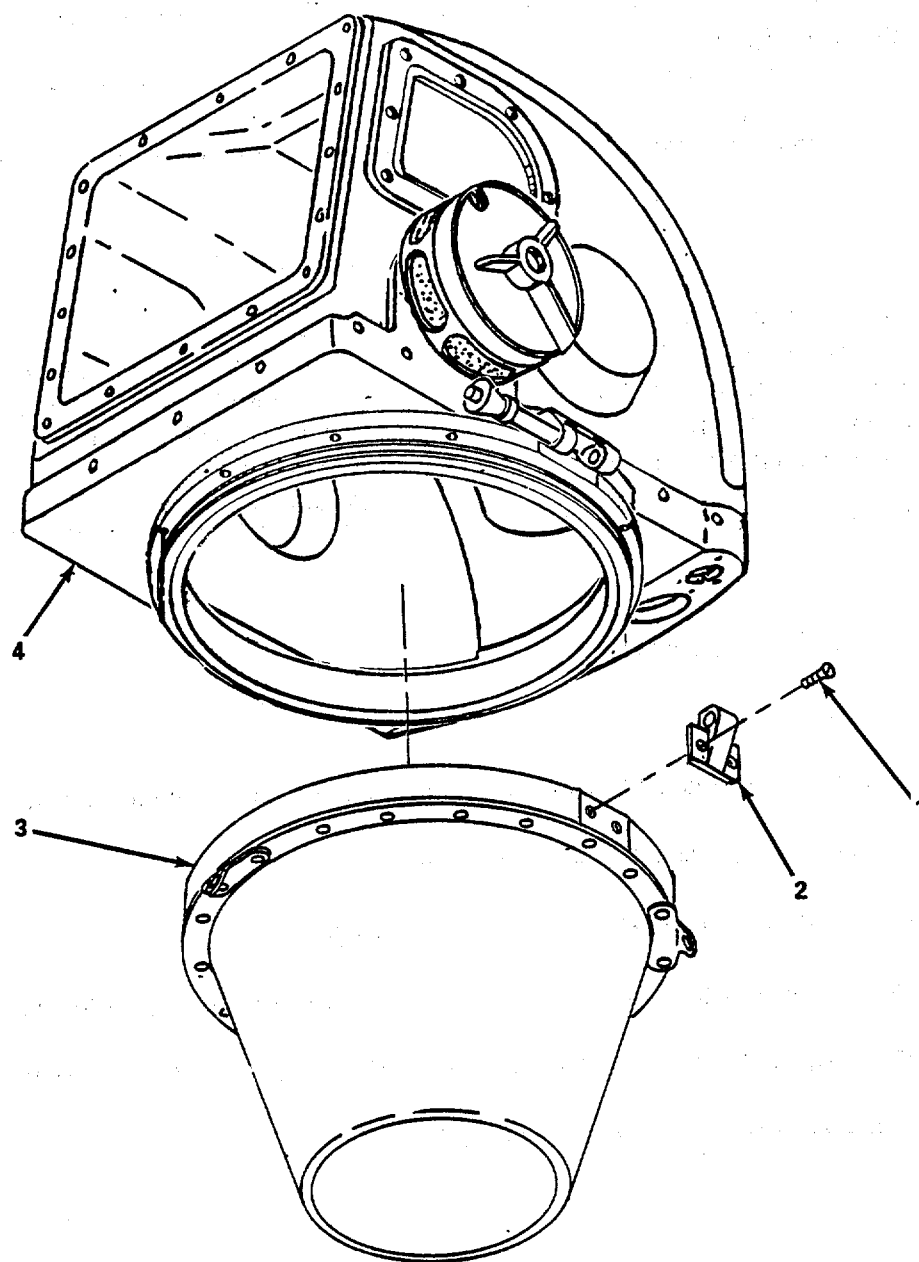

Figure 5-1. Lower Lug, Replace.
- (1) *Replace (lowerlug).* (figure 5-1)
- (a) Remove two screws (1) and lower lug (2).
- (b) Apply a thin coat of lubricant to lower lug surface that contacts lower breech ring (3).
- (c) Apply a thin coat of sealant to threads on screws (1).
- (d) Install lower lug (2) and thread two screws (1) fingertight.
- (e) Install lower breech ring (3) on helmet (4) (slide quick release pins into loaded position).
- (f) Tighten lug screws (1) evenly and torque screws (1) to 18-20 in.-lb (2.1-2.3 Nm).